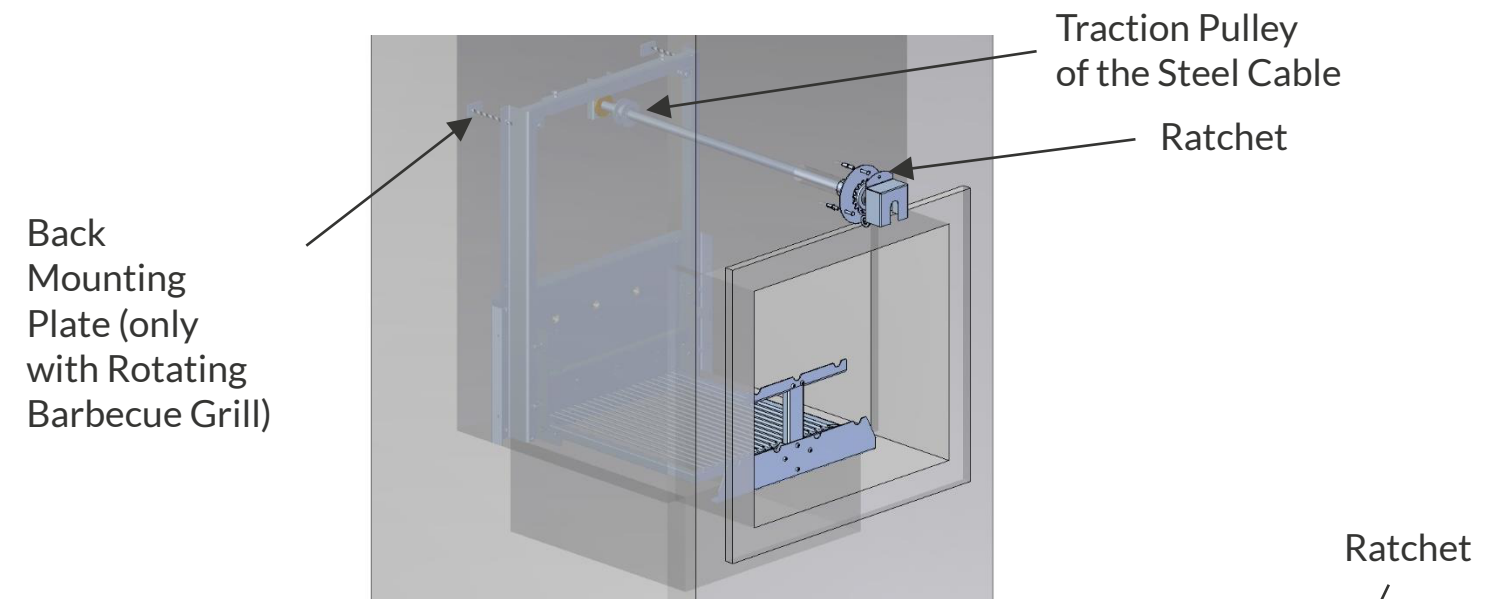

Figure 13
c) Install the Lifting Shaft, first passing it through the Ratchet and then through the Steel Cable Traction Pulley. Fix the Ratchet, keeping the shaft aligned so it rotates freely as shown in Figures 13 and 14.